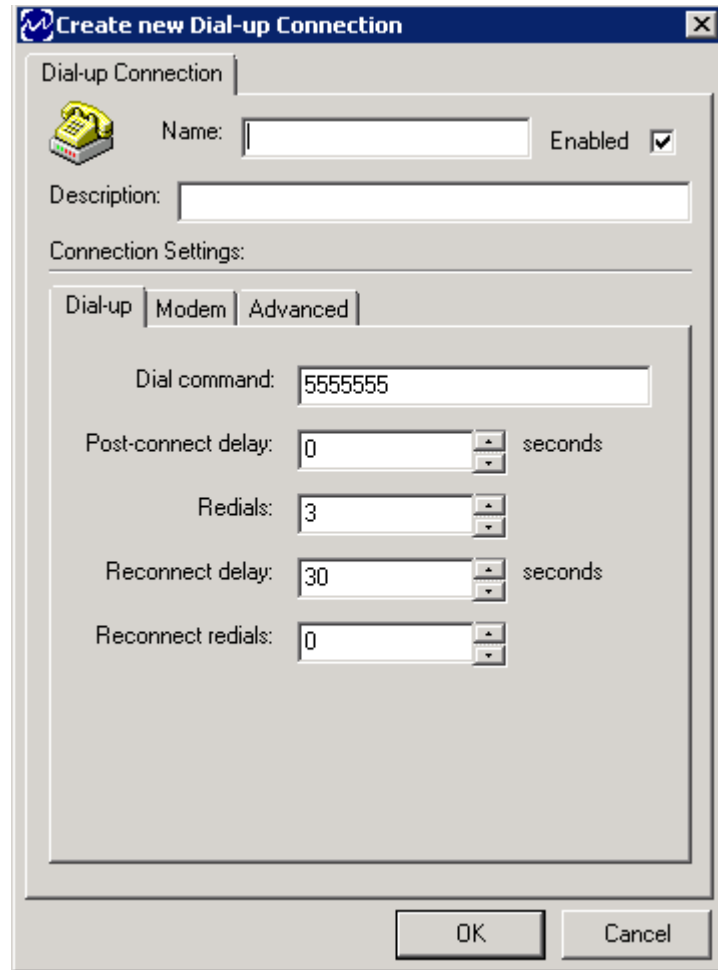

Figure 27 - Create New Dial-Up Connection Window - Dial-Up Tab
The **Create New** window (Figure 27) displays the settings available when creating a **Dial-up Connection** object.
Figure 27 displays the **Create New Dial-up Connection – Dial-up** tab.
- The **Create New** window appears (Figure 27).